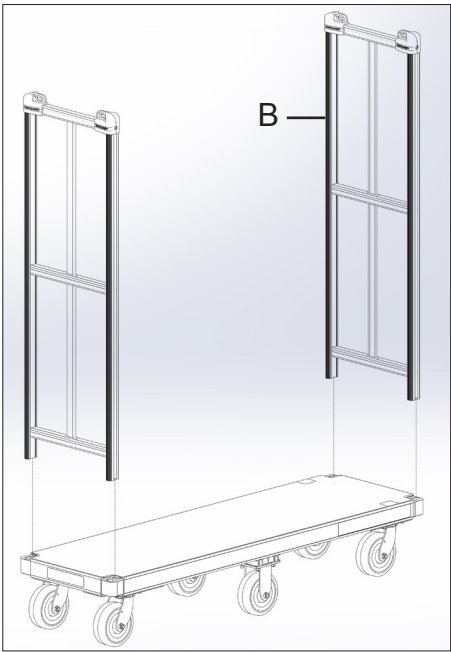

Figure 4
3. Position the handle (B) as shown in Figure 4 and insert it into the sockets of the deck.